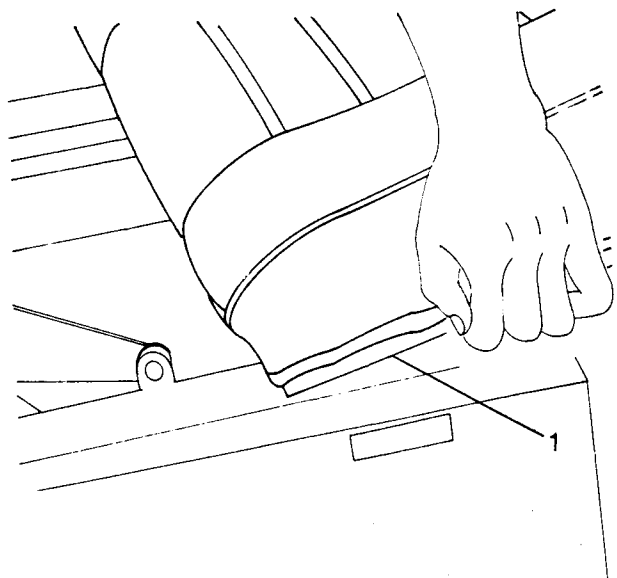

Fig K2.1
- (1) Refer to Fig K2.1. Remove the seat cushion and lid panel (1) from the seat base.